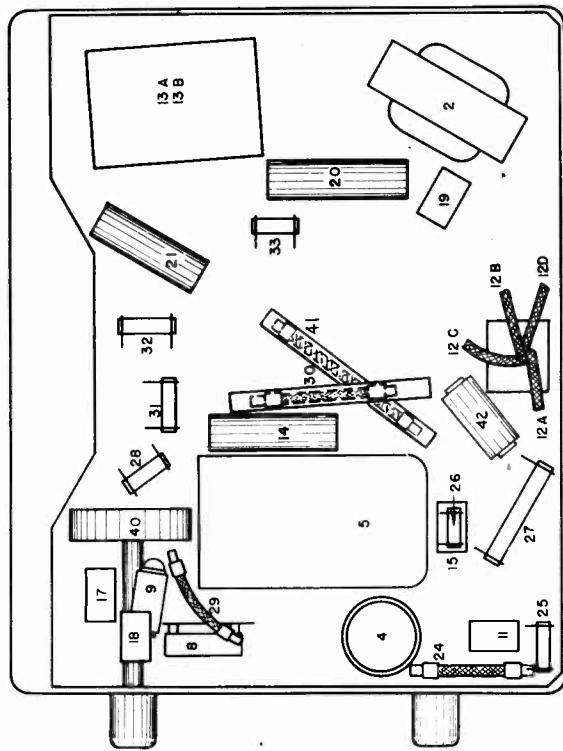

FIG. 4--PARTS LAYOUT--Bottom View
- (c) Change test oscillator setting to 600 K.C. and turn condenser rotor plates until this signal is tuned in. Adjust the antenna compensating condenser (Illus. #8, Fig. 4), while rocking the condenser gang plates back and forth through the signal until maximum output is obtained. It will be necessary to readjust this trimmer to the car antenna upon installation.